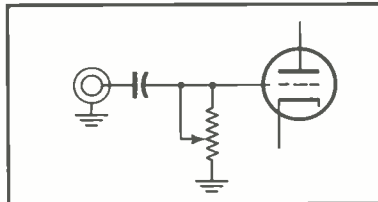

Fig. 1
Q. My power amplifier is behaving in a most peculiar manner. When the volume control is turned up full, the bass response is normal, but as the setting of the control is reduced, the bass falls off sharply. This is not a result of the Fletcher-Munson effect, for, as I advance the gain of pre-amplifier at the same time that I decrease that of the power amplifier, the bass still continues to fall off. Enclosed is a schematic of the input circuit of the power amplifier, (Fig. 1), perhaps it will help